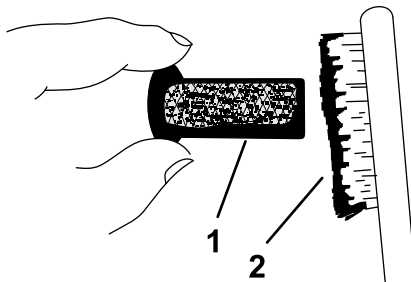

Figure 69
3. Clean the arrester with a wire brush and soak in solvent if necessary (Figure 69).